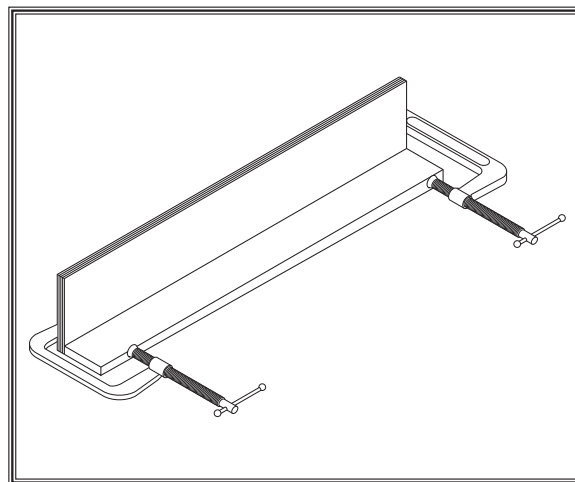

Figure 56. Clamping the resawing barrier.
3. Glue the end of the 3" board, then clamp the boards at a 90° angle with the larger board in the vertical position as shown in **Figure 56**.